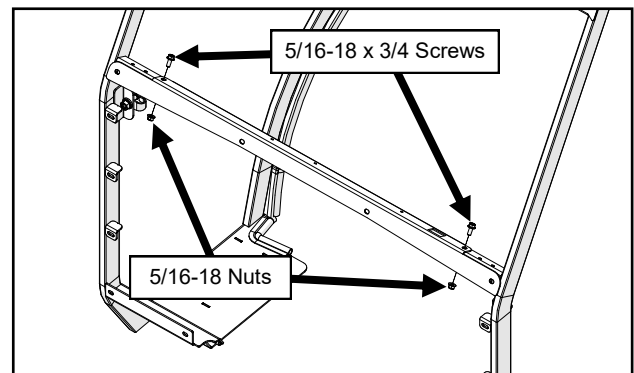

Fig. 7.1 (Temporarily Install Sheet Metal Cowl)
- 7.1 With assistance, temporarily install the sheet metal cowl so that the wiring harness can be run and secured. See Figure 7.1.